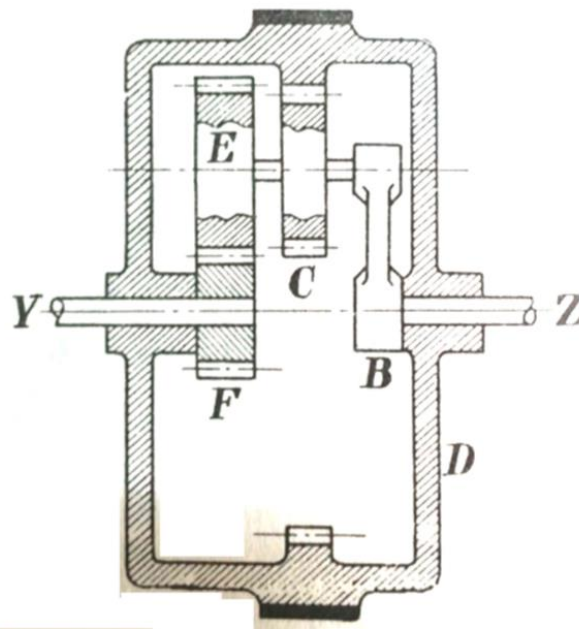

Figure Q4A
- 3B.** With neat sketches explain the various types of kinematic pairs based on the type of relative motion between the elements. (3)
- 3C.** Explain working of Reverted gear train arrangement with neat sketch. (2)
- 4A.** An epicyclic gear is shown in figure Q4A. The shaft Z is driven by an arm B which is keyed to it. The two gears C and E which are cast in one piece, rotate on a pin carried on the arm B. The pinion C gears with the fixed annular wheel D and E is driven by the gear F on the shaft Y. The number of teeth are: $D=60$, $C=16$, $E=24$, $F=20$. The shaft Y runs at 600 rpm and transmits a torque of 120 Nm. Calculate: (5)